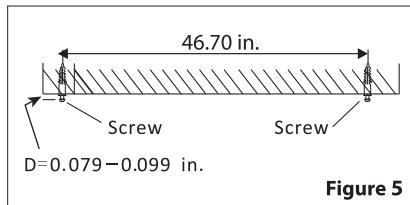

Figure 5
1. Install provided screws directly onto mounting surface. Spacing between screws should be 46.70 inches. Gap (D) should be .079-.099 inches. For concrete/drywall surfaces, wall anchors are required. Drill two holes (use a 1/4 inch drill bit) for provided wall anchors then use provided screws (See Figure 5).